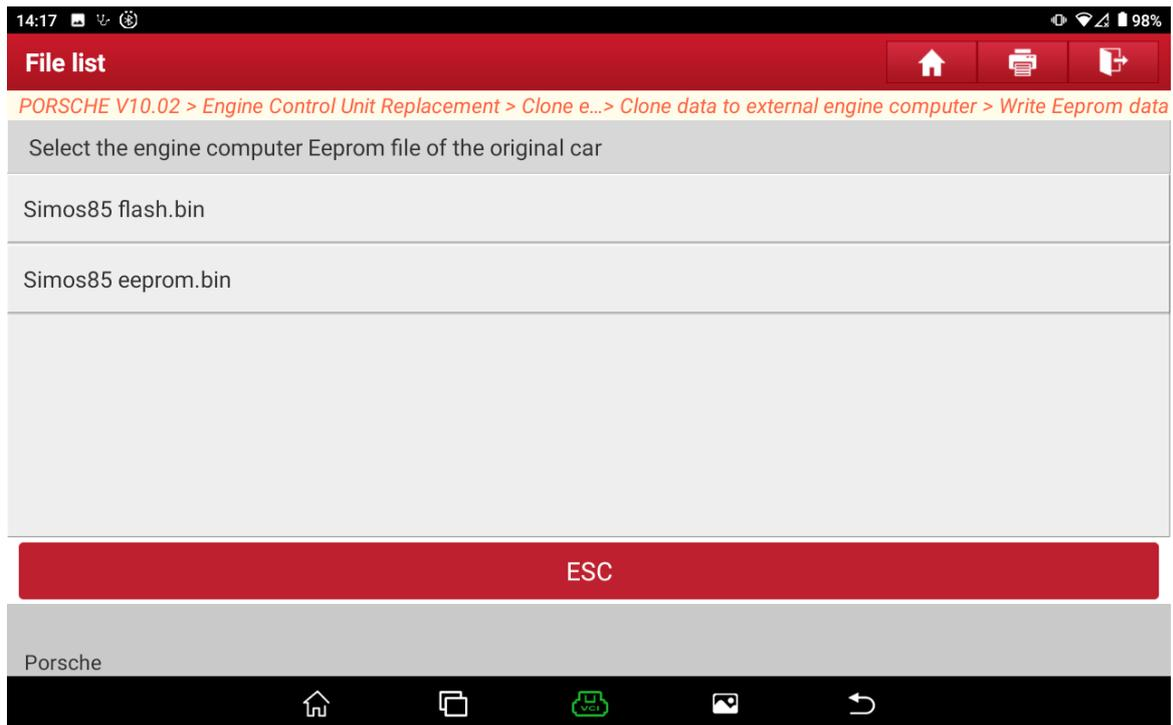
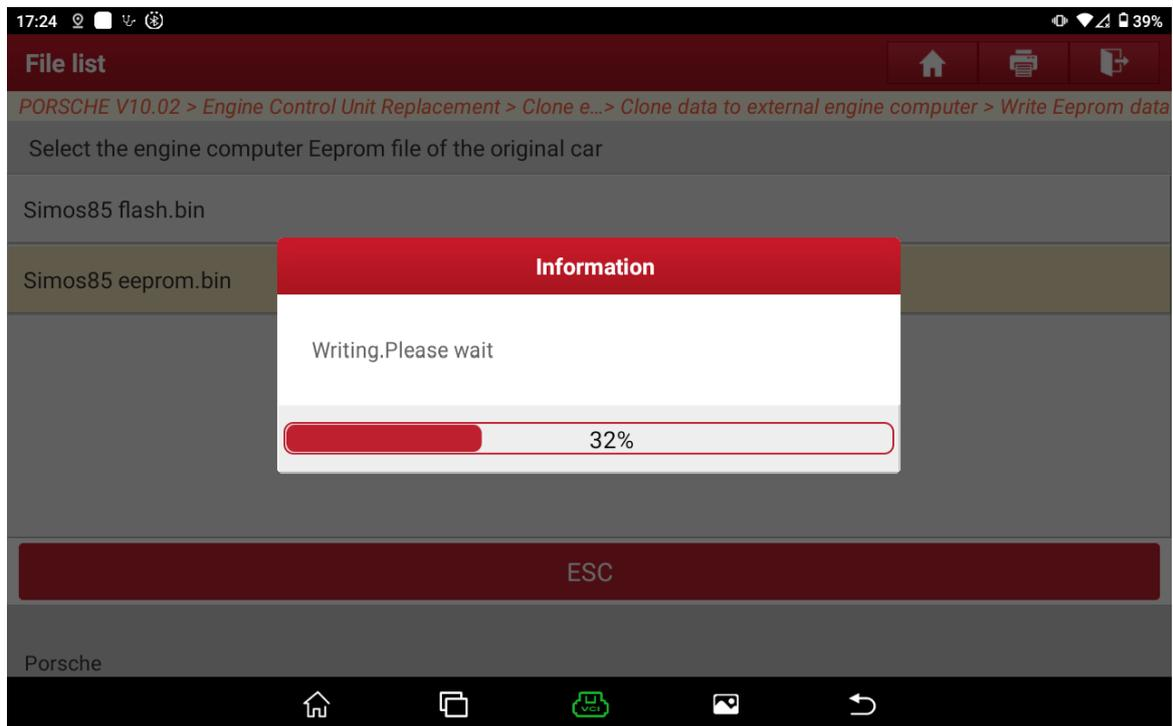
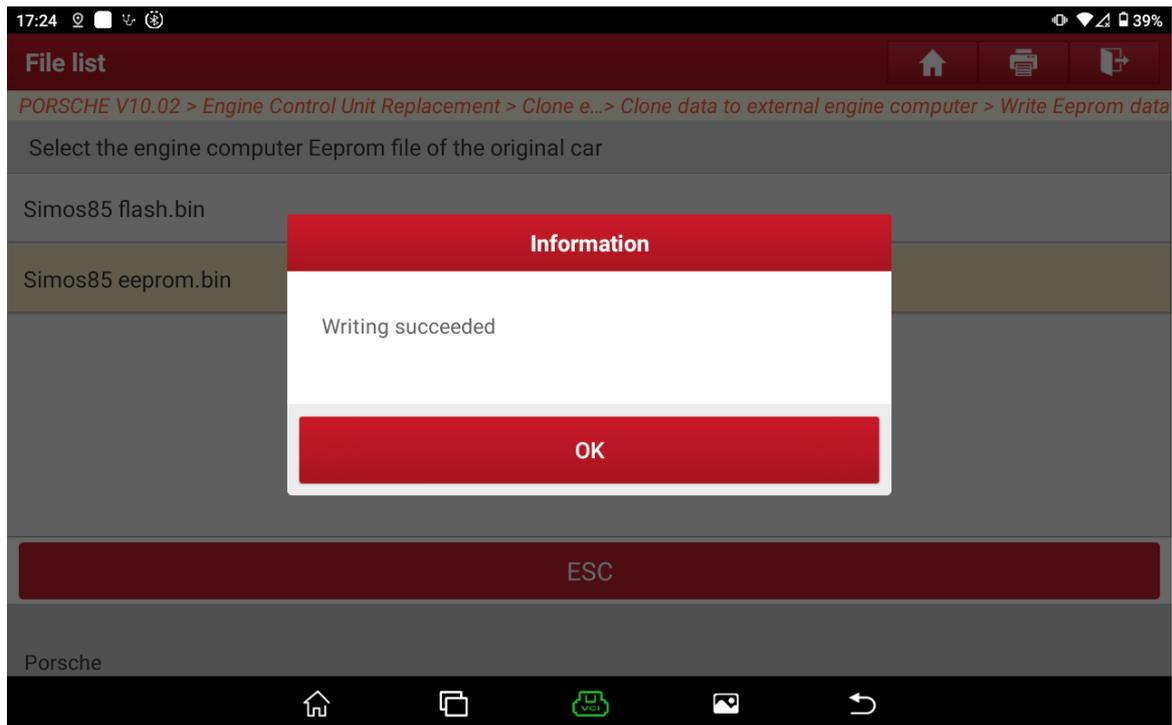

Figure 16
Figure 17
Figure 18
11. Execute **【Write Eeprom data】** and select the backed up Eeprom data file, as shown in Figure 16, Figure 17, and Figure 18: